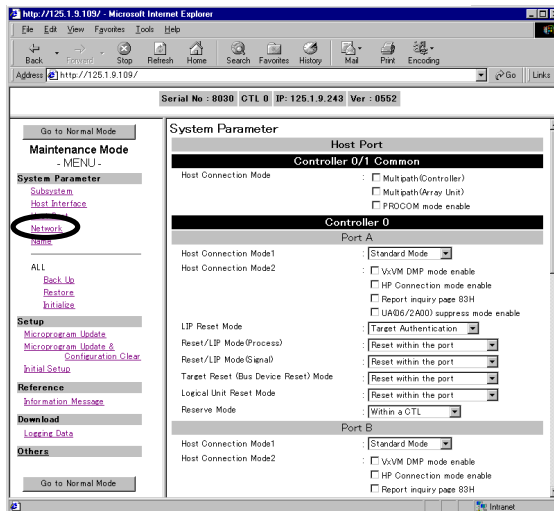

Figure 5.3 WEB Screen (2)
3. Please click 'Network'. (see figure 5.3)